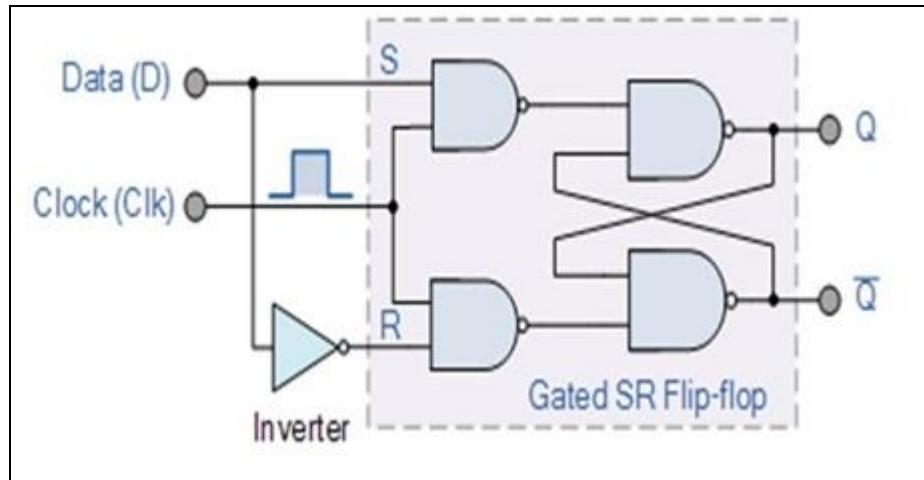

Figure 6: D Flip Flop
*Data (D)* flip-flop is a variation of a clocked SR flip-flop constructed using either NAND or NOR gates. By adding an inverter (NOT gate) between the Set and Reset inputs, the S and R inputs become complements of each other ensuring that the two inputs S and R are never equal (0 or 1) to each other at the same time allowing us to control the toggle action of the flip-flop using one single D (Data) input. Then this Data input, labelled “D” and is used in place of the “Set” signal, and the inverter is used to generate the complementary “Reset” input thereby making a level-sensitive D-type flip-flop from a level-sensitive SR-latch as now S = D and R = not D as shown in Figure 6.